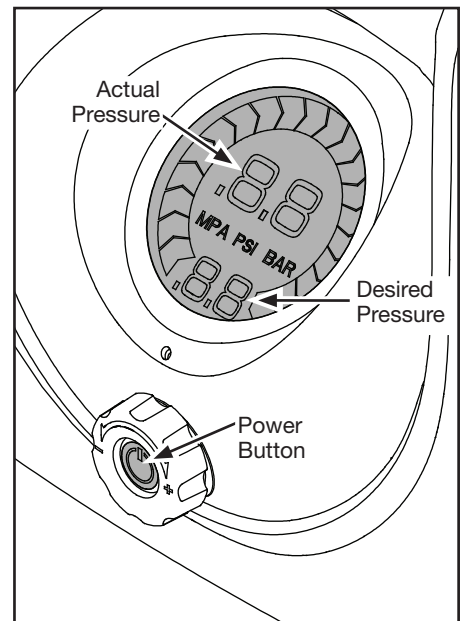

Figure 6 - Digital Pressure Gauge and Power Button
5. Press power button (see Figure 6).
6. When item reaches desired firmness, press power button again to stop inflation (see Figure 6). The actual pressure will then read on digital gauge.
5. Press power button (see Figure 6). Unit will turn off automatically when set pressure is reached.